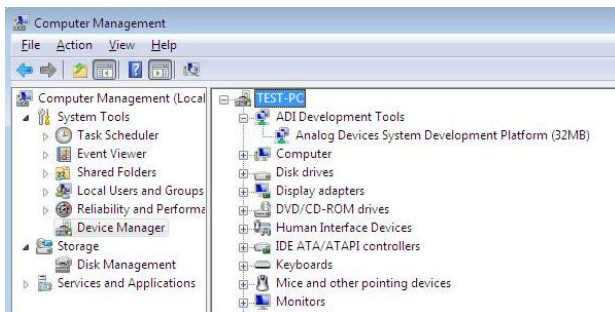

Figure 18. Device Manager: Checking That the Board Is Connected to the PC Correctly
- iii. The **Computer Management** box appears. Click **Device Manager** from the list of **System Tools** (see Figure 18).